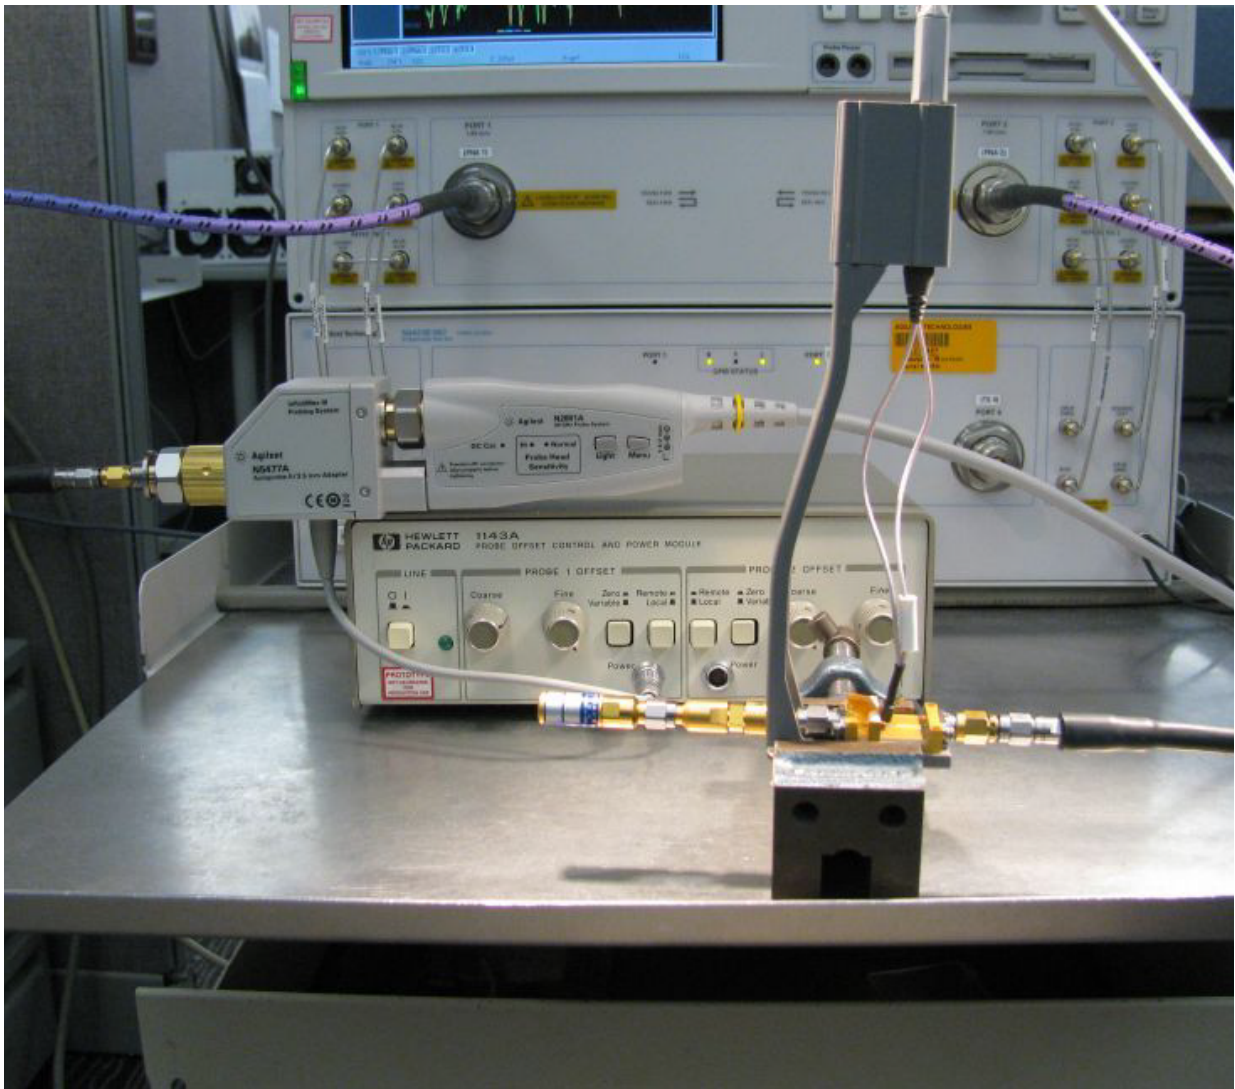

Figure 5 Setup to measure “Vout” of probe
- 10 Now move the 2.92mm male test port 1 connector to the 5062_1247 adapter and N5477A Autoprobe II adapter assembly. Connect the Maury Microwave 8775B2 2.92mm male broadband load to the 1250_1749 adaptor and N5443A PV fixture assembly. This new setup is shown in Figure 5. Torque all connections.